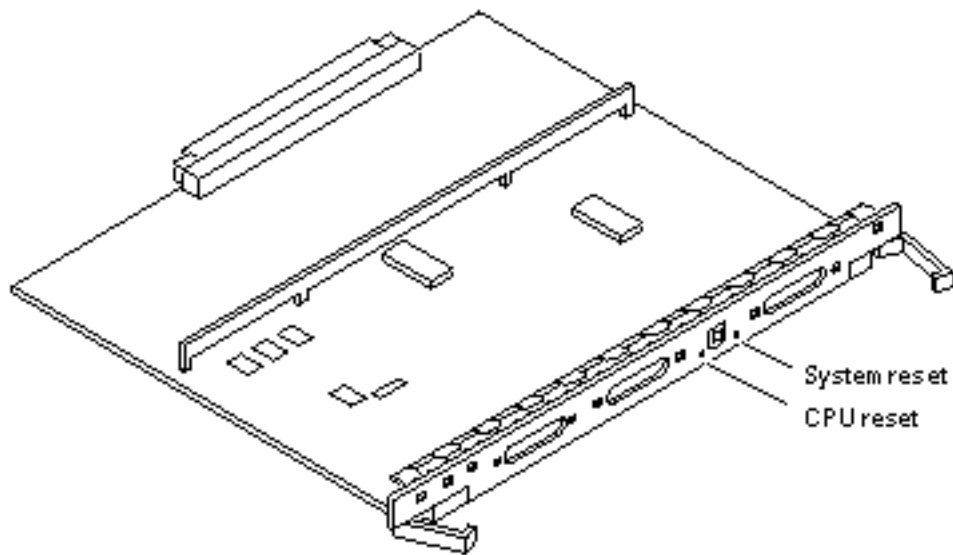

Figure 3-7 Reset Switches on the Clock+ Board
7. To restart firmware, or if the system hangs, press the CPU reset switch (Figure 3-7) on the clock+ board.